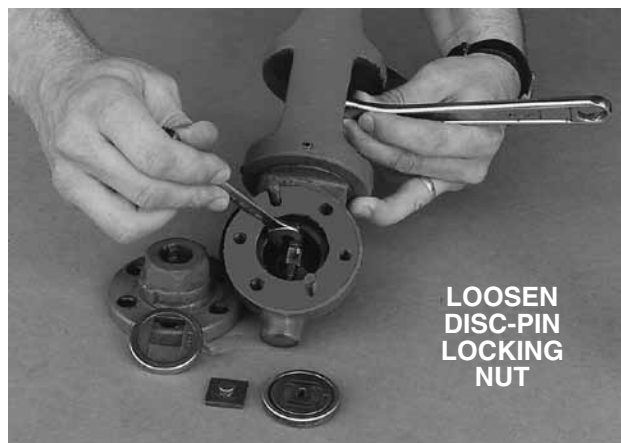

Figure 40
- Loosen the disc-pin locking nut and allow at least 10 minutes for the valve to react (see figure 40).